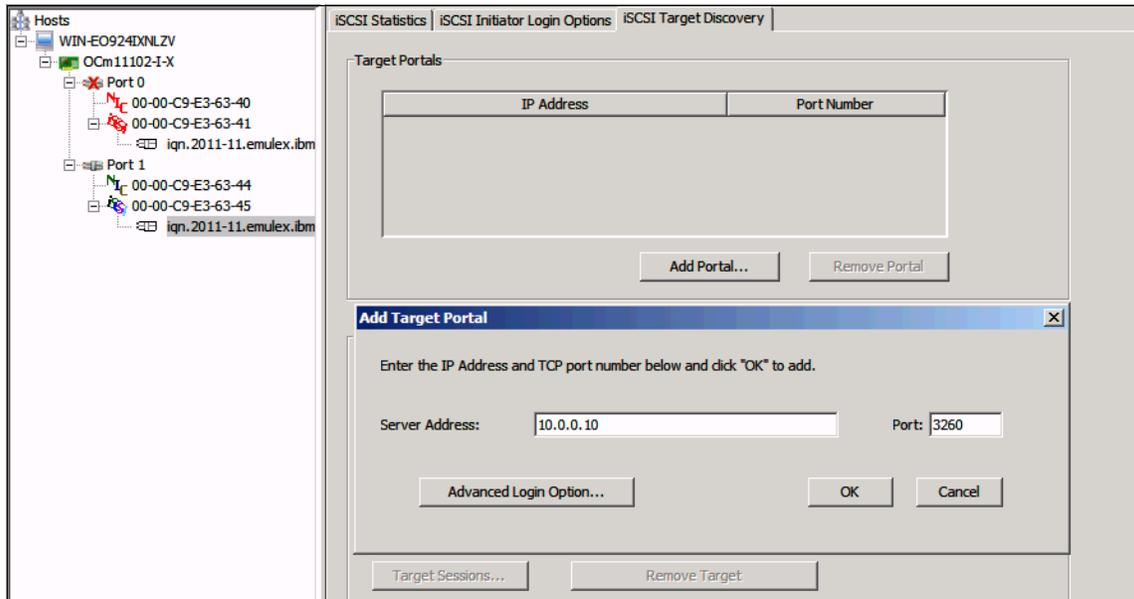

Figure 10-111 Add Target Portal window
- g. On **iSCSI Target Discovery** tab (Figure 10-111), click **Add Portal**.
- h. In the Add Target Portal window (inset in Figure 10-111), enter the IP address of the storage iSCSI. Leave the default port as 3260. Click **OK**.